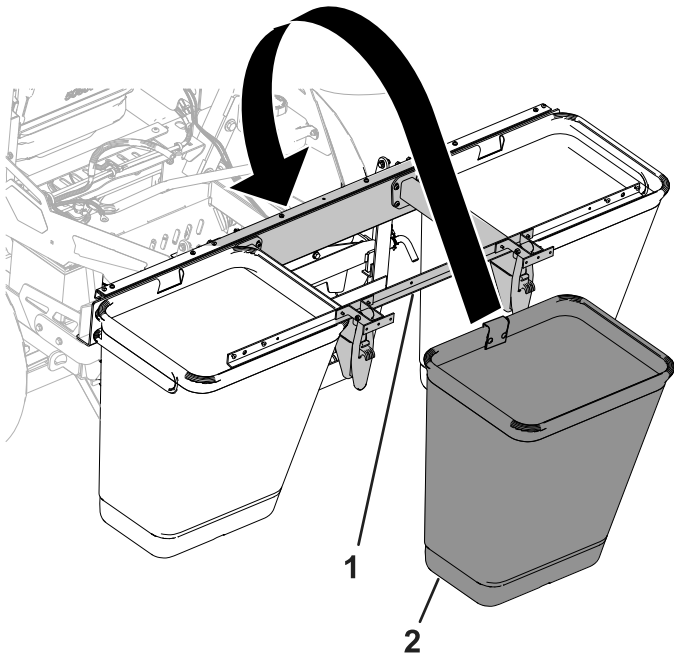

Figure 17
1. Hook the bags to the bagger frame (Figure 17).